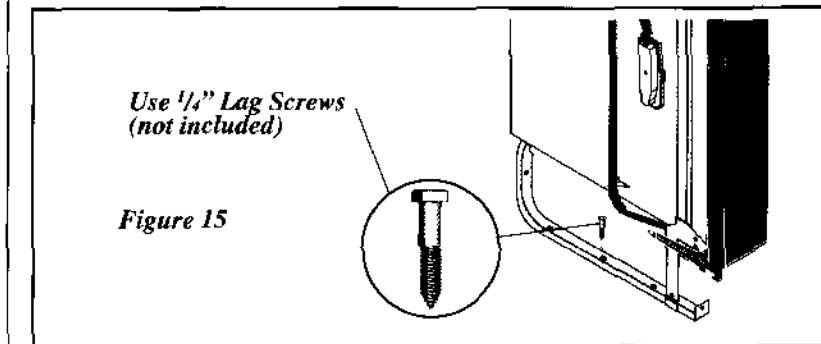

Figure 15
1. Screw 1/4" lag screws, not included, through holes provided in frame rail. **See Figure 15.**